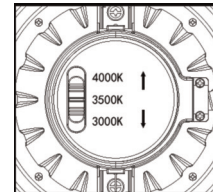

Fig. 4
- 5.) Toggle the CCT Selector on the top of the unit to the desired color temperature (CCT) (**Figure 4**)
- 5.) Squeeze the two tension clips so they are in an upright position and insert lamp into the frame. (**Figure 4**)